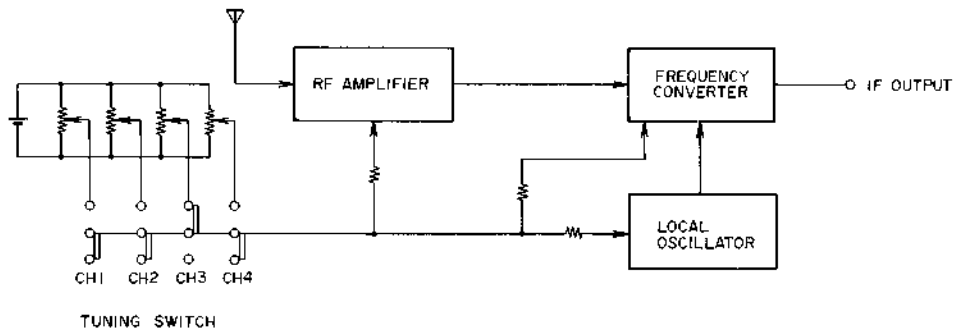
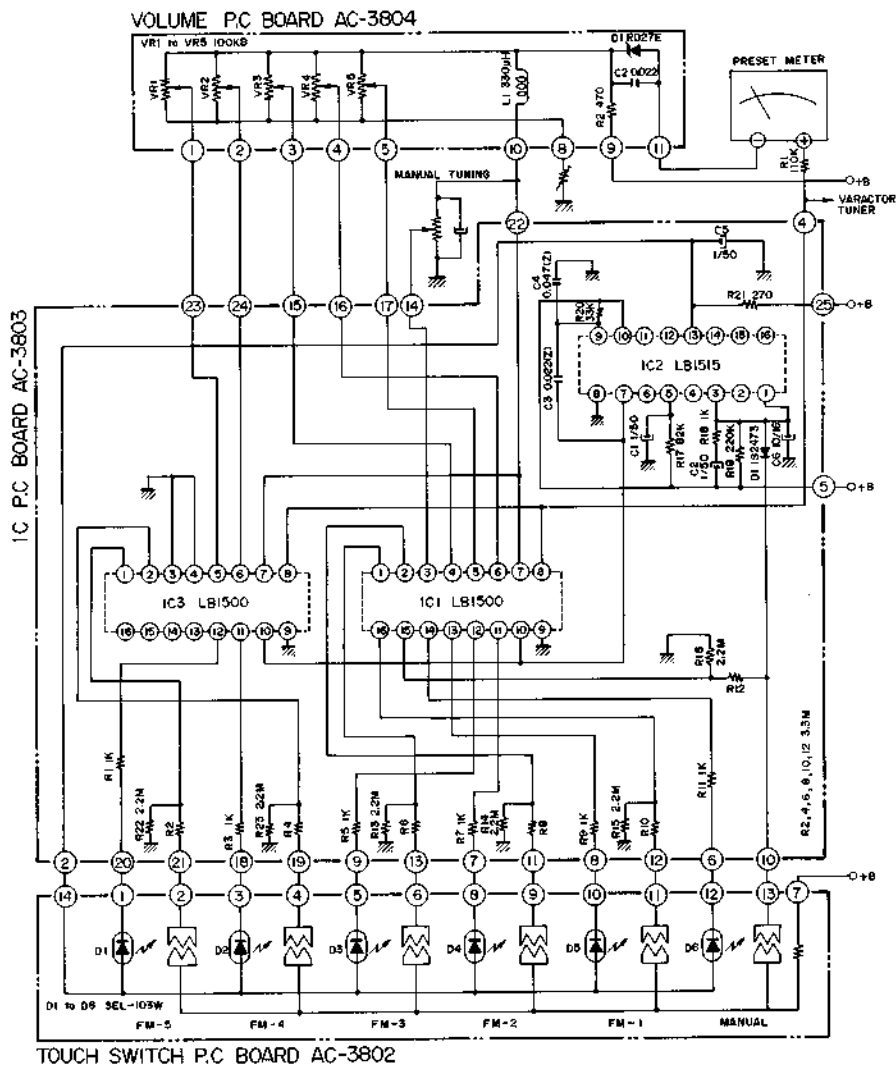
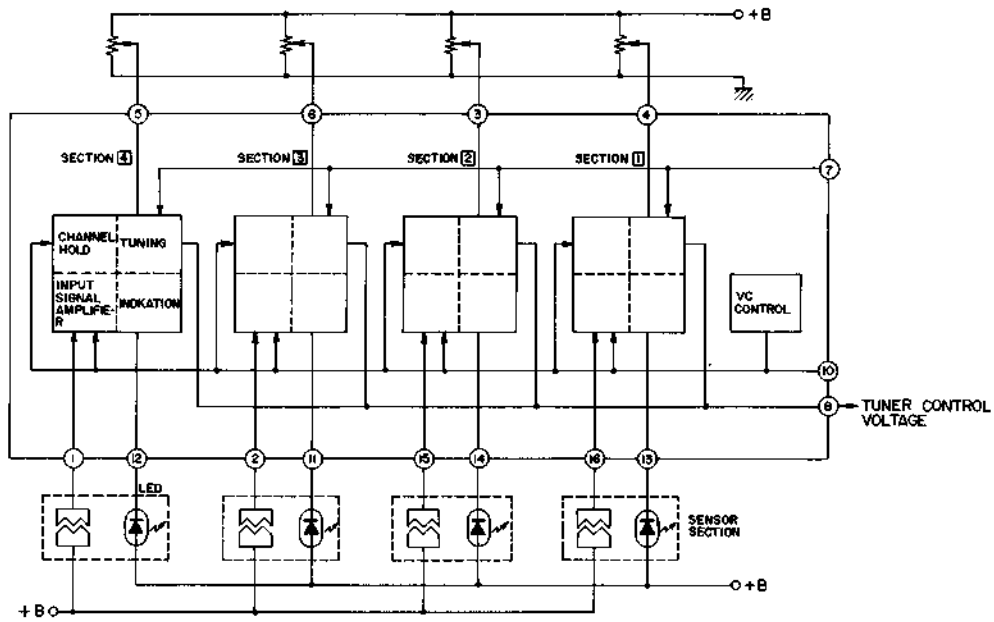

Fig. 16 Block Diagram
Fig. 17
Fig. 18
(2) An example of a station selection system employing a varactor tuner is shown in Fig. 16. For station selection, push switches are used for selection of voltage supply to the varactor tuner. However, in the AC-3800, AC-3800L, these station selection push switches are pure electronic system sensi-touch switches.
(3) Sensi-touch Employed Preset Station Selection System Operation
The circuit shown in Fig. 17 is the control voltage generating preset volume and sensi-touch circuit. Fig. 18 shows the inside of circuit sensi-touch IC LB1500 which include the 4 channel circuitry. Terminals ①, ②, ⑮ and ⑯ are the input terminals; terminals ⑧ are the station selection output terminals; and terminals ⑪ through ⑭ are the pilot output terminals.